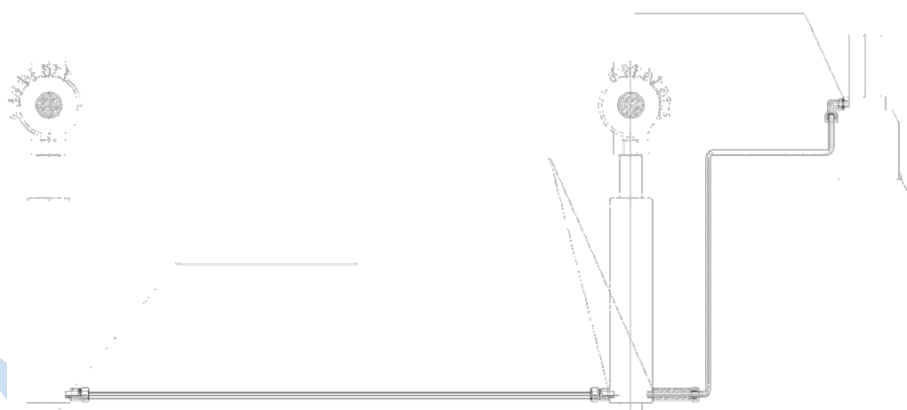

Fig.7
- ☐ Check to see if the sliders of carriage are lubricate properly. Use high quality lithium grease (GB7324-87). see Fig. 7
After the machine has been put into use for 6 months, clean oil container and replace the oil. Later clean the hydraulic system and replace the oil once a year. See fig.7.
After the machine has been put into use for a certain period, if any leakage is detected, check it carefully. If it is caused by the wearing of sealing materials, replace the worn parts timely according to its original specification. See fig.7.